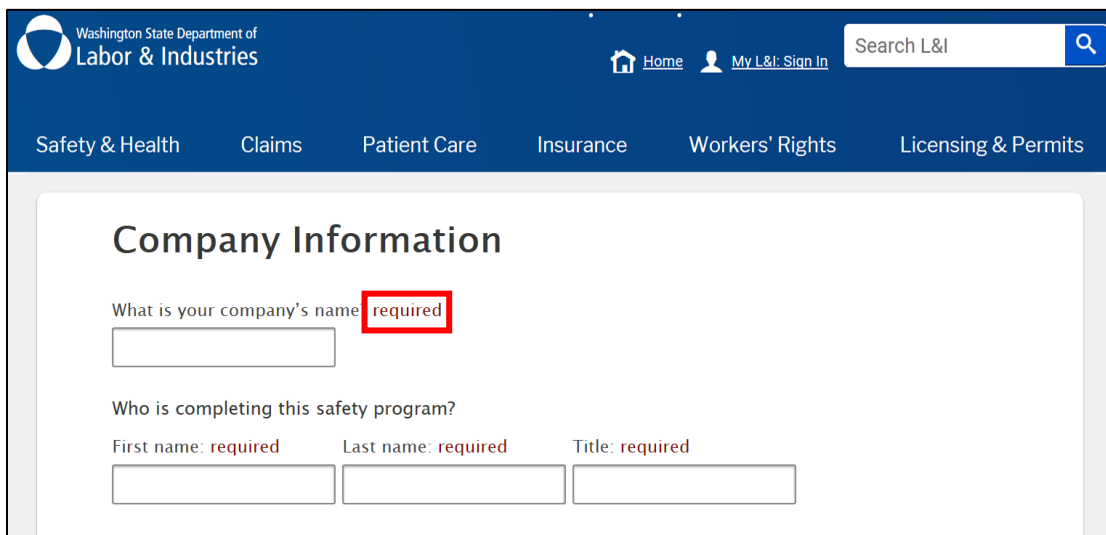

Figure 3. Entering required information.
- Thoroughly complete all fields including full names and job titles. If you see “required” by a field (see *Figure 3*) this signifies information that is required by law to be included in your program to stay in compliance with WAC 296-800-140 or is required to retrieve your safety program ID.